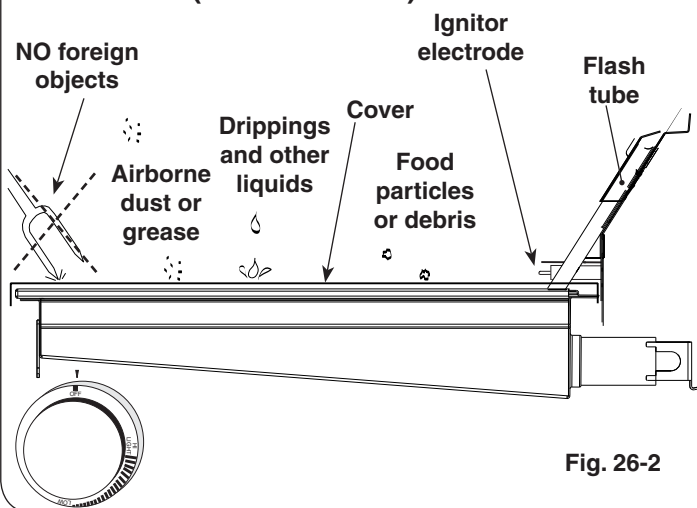

Fig. 26-2
- When not in use, **always** cover the infrared burner with the stainless-steel cover. This protects the burner from drippings (from other cooking), airborne particles, and foreign objects (Fig. 26-2).
- Do not strike or scratch the burner ceramic as it may chip, crack, or break (Fig. 26-2).